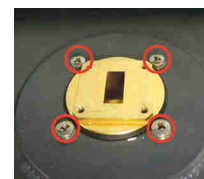

Fig. 10.37 Top flange
- 10 Remove the waveguide connector coming from the installation to get access to the top flange of the Waveguide Assy. Using tools 1/6, loosen and remove the four screws holding the top flange. See Fig. 10.37 \(p. 155\).